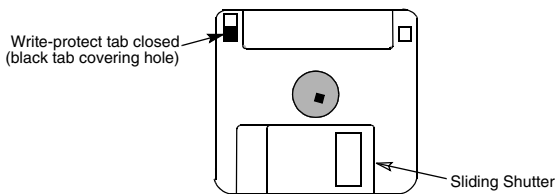

Figure 10. Patient Data Disk with write-protect tab closed.
Be certain that the write-protect tab is closed on the disk (Figure 10). Insert a patient data disk firmly into the disk drive on the right side of the PRM until the disk ejection button protrudes.
- Do not try to open the sliding shutter that covers the disks (Figure 10).
NOTE: *The write-protect tab must be closed in order to record data to the disk and to print reports. If data cannot be recorded to the disk, check to see that the tab is positioned to cover the hole (Figure 10).*